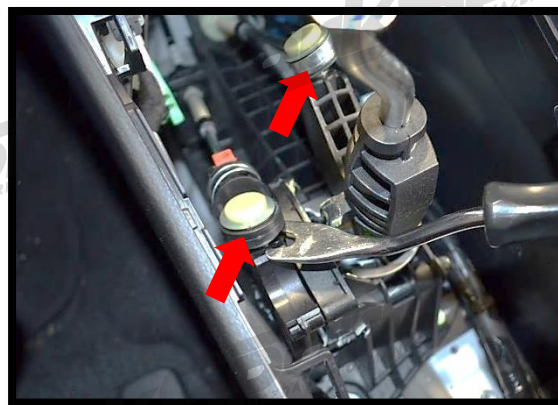

Figure 1d
d) Use a door panel removal tool to pry the shift cable ends off the shifter ball studs (Figure 1d). Mazdaspeed3 shifter shown for reference.
- h) Clip the shift cables back into their locations in the shifter housing (Figure 1d).